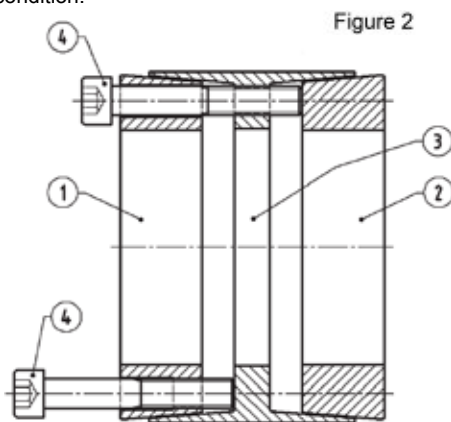

Figure 2
(Refer to Figure 2)
2. Remove all locking screws. Transfer required number of screws into all push-off threads of clamp collar Item 1 (see Figure 2).
4. Transfer locking screws used for dismounting of clamp collar Item 1 into all push-off threads in center collar Item 3 (see Figure 2). Release clamp collar Item 2 by repeating procedures outlined in Step 3.